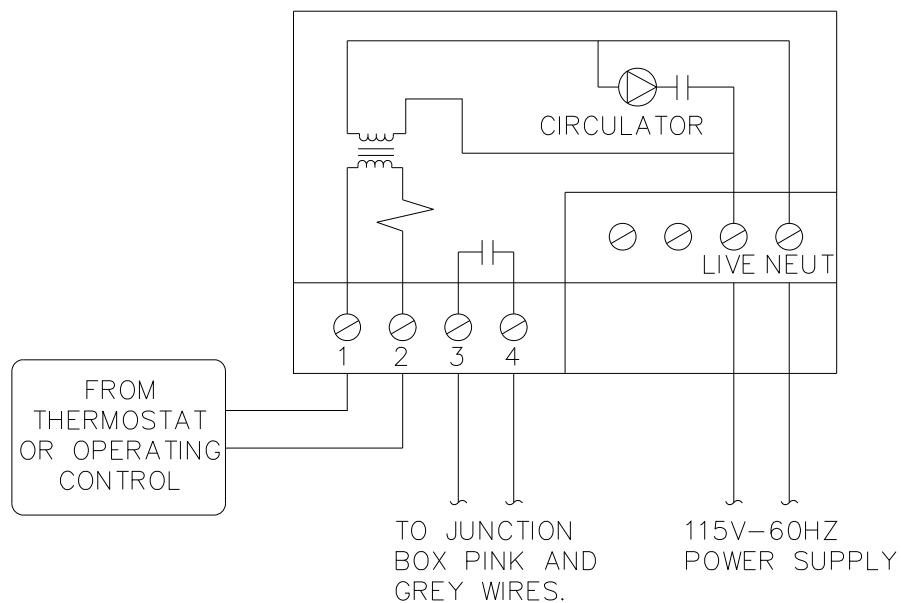

Figure 6.2: Taco Zoning Circulator Wiring
2. Taco Zoning circulator(s) can be used instead of mounting separate circulator relay(s) (Figure 6.2).